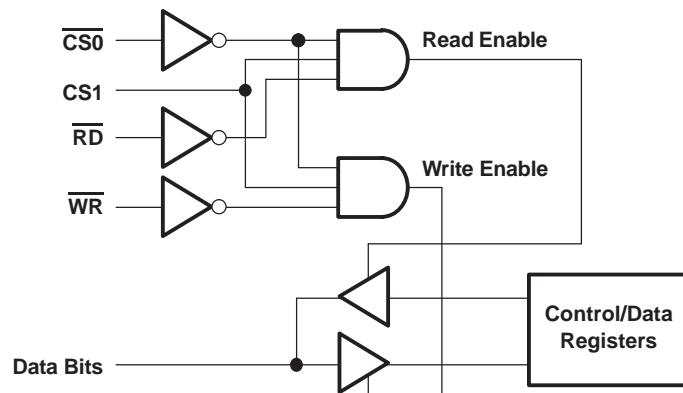

Figure 35. Logical Combination of  $\overline{CS0}$ ,  $CS1$ ,  $\overline{RD}$ , and  $\overline{WR}$
Reading from the THS10082 takes place by an internal  $\overline{RD}_{int}$  signal, which is generated from the logical combination of the external signals  $\overline{CS0}$ , CS1, and  $\overline{RD}$  (see Figure 35). This signal is then used to strobe the words out of the FIFO and to enable the output buffers. The last external signal (either  $\overline{CS0}$ , CS1, or  $\overline{RD}$ ) to become valid makes  $\overline{RD}_{int}$  active while the write input (WR) is inactive. The first of those external signals going to its inactive state then deactivates  $\overline{RD}_{int}$ .